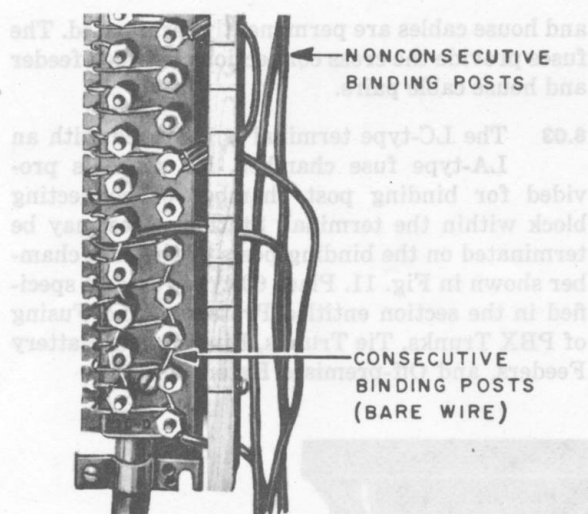

Fig. 8 — Use of Wire in Strapping Binding Posts
6.03 Wire may be used to strap binding posts as shown in Fig. 8. The same type wire used in the wiring of the terminal is suitable for strapping binding posts.